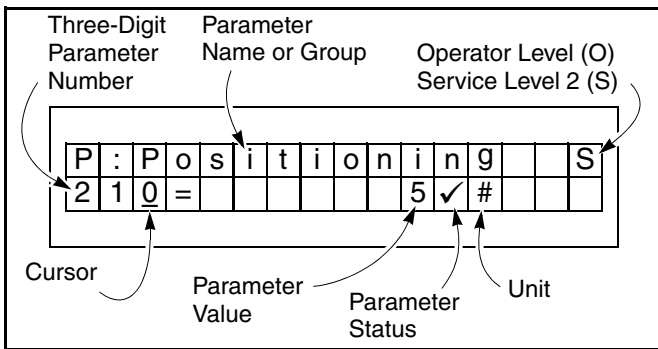

Figure 30
- Pressing the enter (●) key saves the displayed value. Press and hold the enter key until a checkmark appears to the right of the value you wish to enter. (Note: If the enter (●) key is not held down long enough, the display will return to the previously saved setting.) A checkmark next to the displayed value indicates the currently saved value. An asterisk next to the displayed value indicates a value that is not saved. (See Figure 30.)